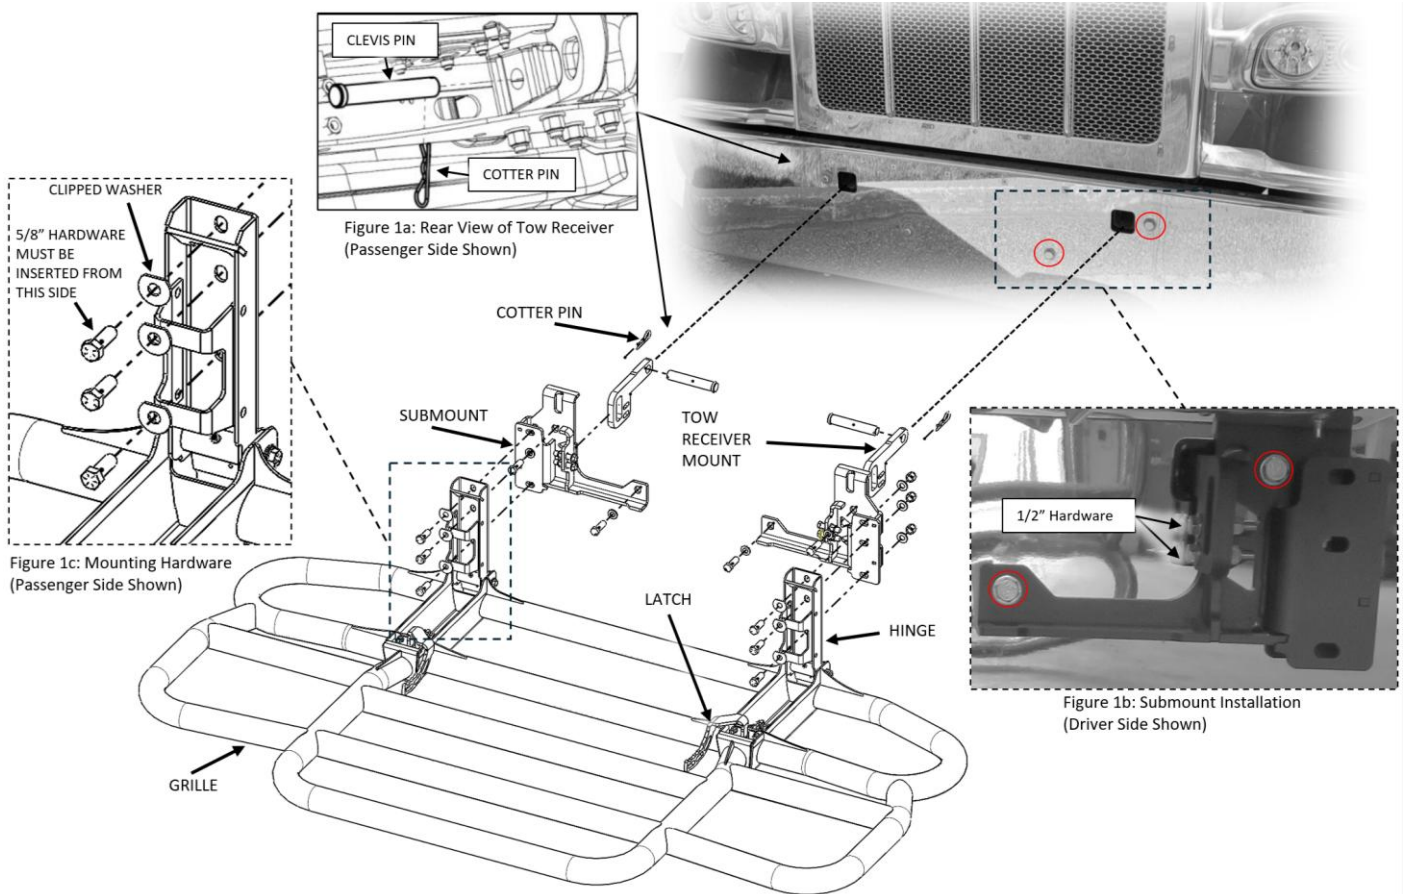

Figure 1: Grille Guard Installation (Your Grille Guard may not be exactly as shown)
4. Open driver side Hinge and lift to driver side Submount. Hand tighten upper hardware shown in Figure 1 (**do not fully tighten**). Repeat for passenger side. **Ensure bolts are inserted from front (Hinge side) as shown in Figure 1c.**